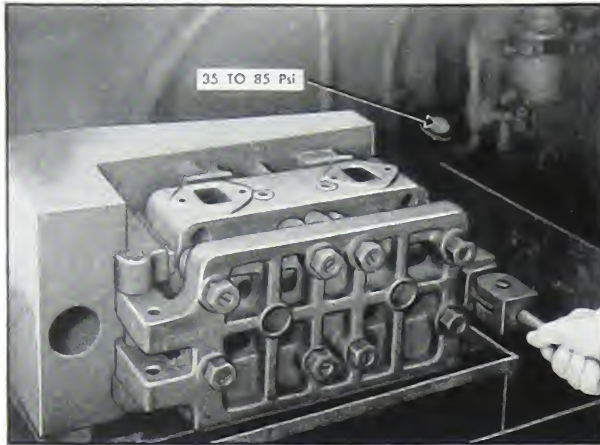

Fig. 3-2. Water testing cylinder head
2. Place the cylinder head in a water test fixture and test for leaks at 35 to 85 pounds pressure. Check particularly around the valve seats and the injector sleeve seats for any cracks, even though such cracks might not show water leakage. This type of crack is caused by tightening down injectors in excess of factory recommendations. See Fig. 3-2.